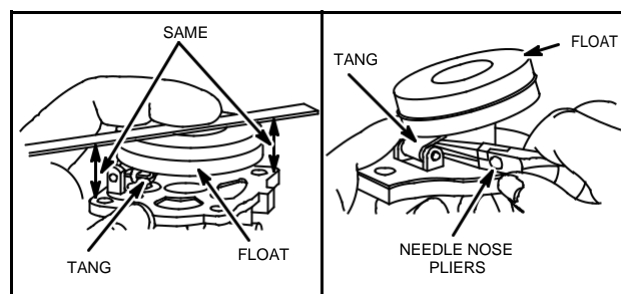

Fig. 289 - CHECKING FLOAT LEVEL
3. If not, bend tang on float until they are parallel. DO NOT PRESS ON FLOAT TO ADJUST, Fig. 289.